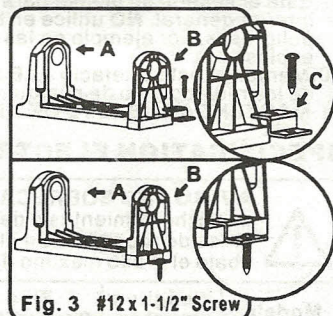

Fig. 3 #12 x 1-1/2" Screw
**Caution!** When using bracket for Ceiling or Wall Mounting - Anti Tamper Support Clip(C) must be installed. Install Anti-Tamper Support Clip(C) as shown in Fig 3. Screw (#12 x 1-1/2") is supplied for installation.